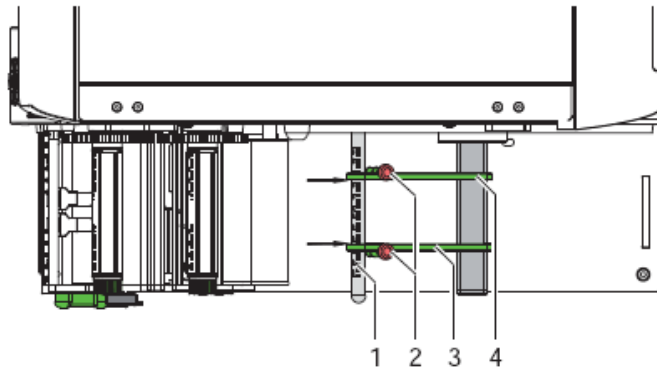

Fig. 6 Adjusting the guide at the roll retainer
3. Loosen knurled screws (2).
4. Adjust the marked faces of the guides (3, 4) at the scale of the guide axle (1) to the width of the media roll. Figure 6 shows the setting for a roll width of 54 mm.
5. Tighten knurled screws (2).
6. Swivel the outer guide (3) upwards.
7. Load label roll (5) on the roll retainer (6) in such a way that the media can be inserted into the print mechanics coming from above.
9. Push the roll until it makes contact with the inner guide (4).
10. Swivel the outer guide (3) downwards. The roll must be braked slightly by the guides when supplying media. If necessary re-adjust symmetrically the guides.